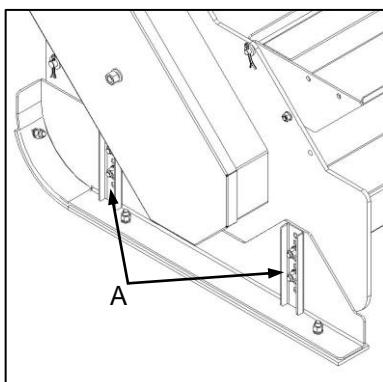

Fig. 6
- ✓ To set the working height of the implement, remove the side panel retaining bolts (Fig. 6-A) and adjust the position of the side panels as required. Ensure that the implement is level by selecting corresponding hole positions at all adjustment points.
- ✓ Om die werkshoogte van die implement te stel, verwyder die sypaneelklemboute (Fig. 6-A) en verstel die posisie van die sypanele soos nodig. Verseker dat die implement waterpas is deur ooreenstemmende gatposisies by alle verstellingspunte te selekteer.